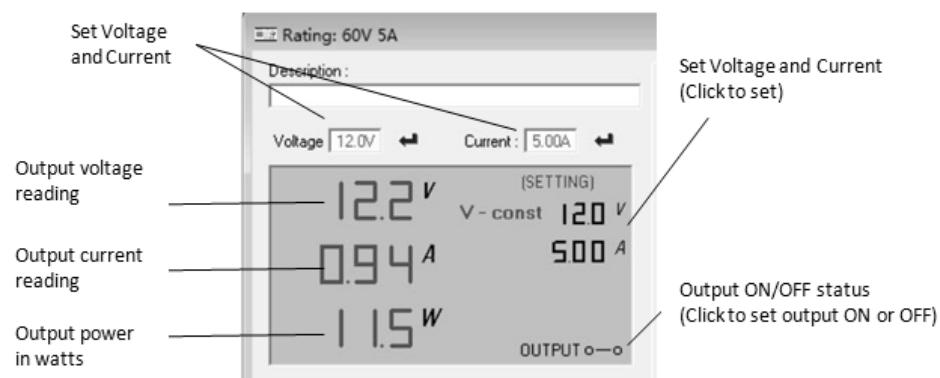

Figure 7 - PC Software General Functions and Display
2. Prepare two 5 kΩ variable resistors and connect wires from pins 1, 2, 3, and 4 as shown in Figure 7.